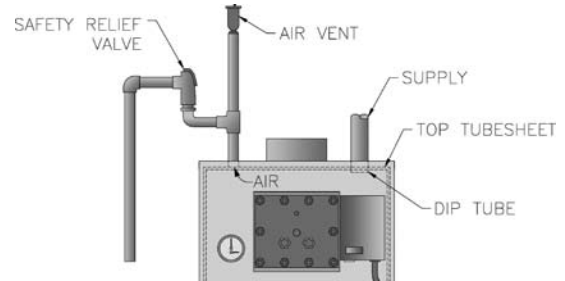

Figure 10: Air Vent and Safety Relief Valve Installation Detail
5. Install provided safety relief valve (for details see Figure 10).
3. Connect System supply and return piping to boiler. See Figures 10 and 11. Also, consult I=B=R Installation and Piping Guides. Maintain minimum ½ inch clearance from hot water piping to combustible materials.
- B. INSTALL SAFETY RELIEF VALVE.** See Figures 10, 11 and 12. Safety Relief Valve must be installed with spindle in the vertical position. Installation of the relief valve must be consistent with ANSI/ASME Boiler and Pressure Vessel Code, Section IV.
- C. AIR VENT.** An air vent or purge must be incorporated in the system to easily remove air from the boiler when the system is filled. The boiler has a built in dip tube which works with the air vent to clear the boiler of air. Improper application of the air vent will cause steaming in the boiler. See Figure 10.
Installation is not complete unless a safety relief valve is installed as shown in Figure 10.